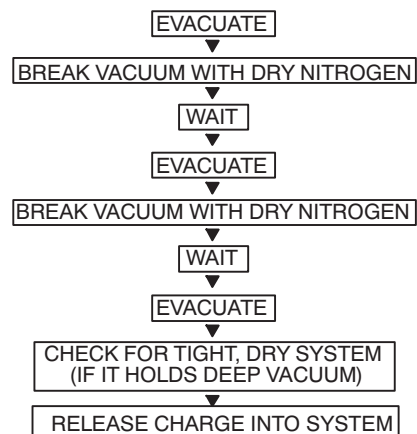

Fig. 12 —Triple Evacuation Method
5. Repeat this procedure as indicated in Fig. 12. The system should be free of any contaminants and water vapor.